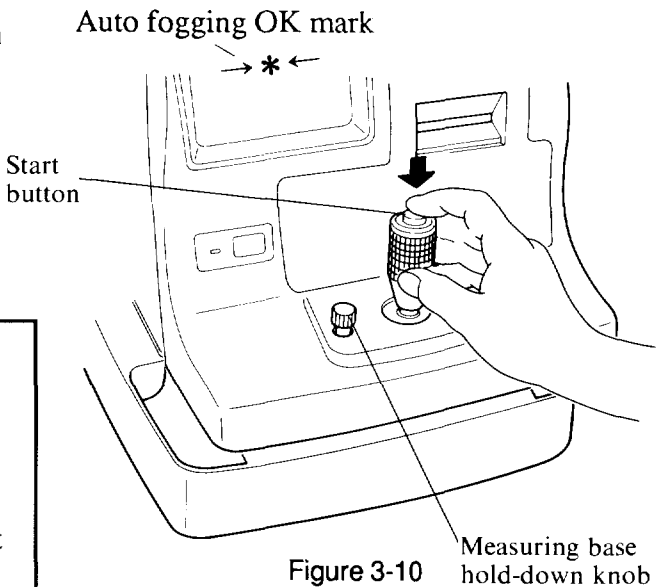

Figure 3-10
- ④ When the auto fogging OK mark (→*←) appears at the center of the screen, press the start button (see Figure 3-10).